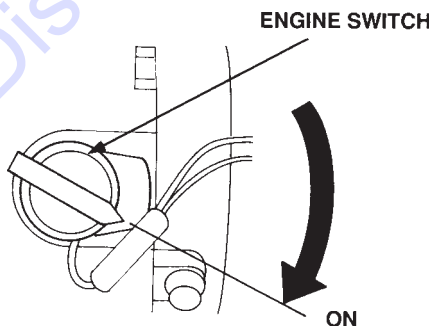

Figure 16. Engine ON/OFF Switch (ON)
- Place the **engine ON/OFF switch** (Figure 16) in the "**ON**" position.